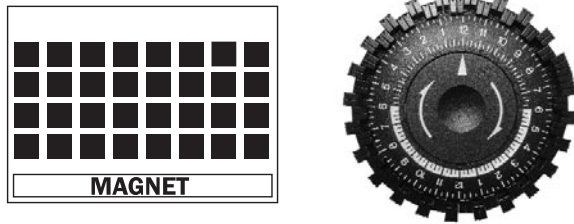

Figure 3: Defrost timer and grain control magnet position for operating in temperatures below 50°F.
the evaporator more quickly and efficiently. See Figure 3 below for correct grain control magnet position and defrost timer for operating in temperatures below 50°F.
4. To improve performance below 50°F, the compressor "off" time must be increased to allow the frost to completely melt. To do this, push the pegs out from the dial center so that the pegs alternate with 2 toward the center, then 2 out from the center, all the way around the dial except for the section now with 6 pegs out in a row. Refer to Figure 3.